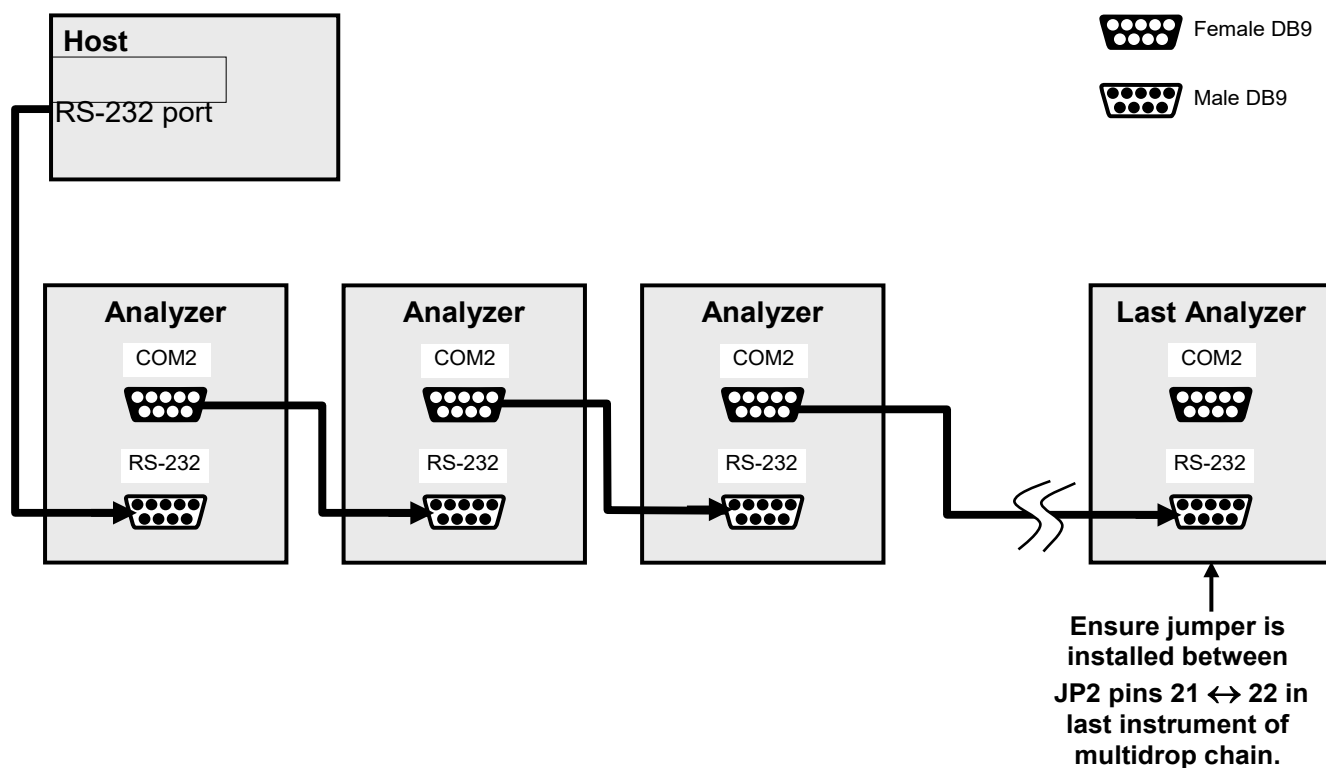

Figure 2-17. RS-232-Multidrop PCA Host/Analyzer Interconnect Diagram
5. Referring to Figure 2-17, use straight-through DB9 male > DB9 female cables to interconnect the host RS232 port to the first analyzer's RS232 port. Do the same from the first analyzer's COM2 port to the second analyzer's RS232 port, and from the second analyzer's COM2 port to the third analyzer's RS232 port, etc. Connect in this fashion up to eight analyzers, subject to the distance limitations of the RS-232 standard.